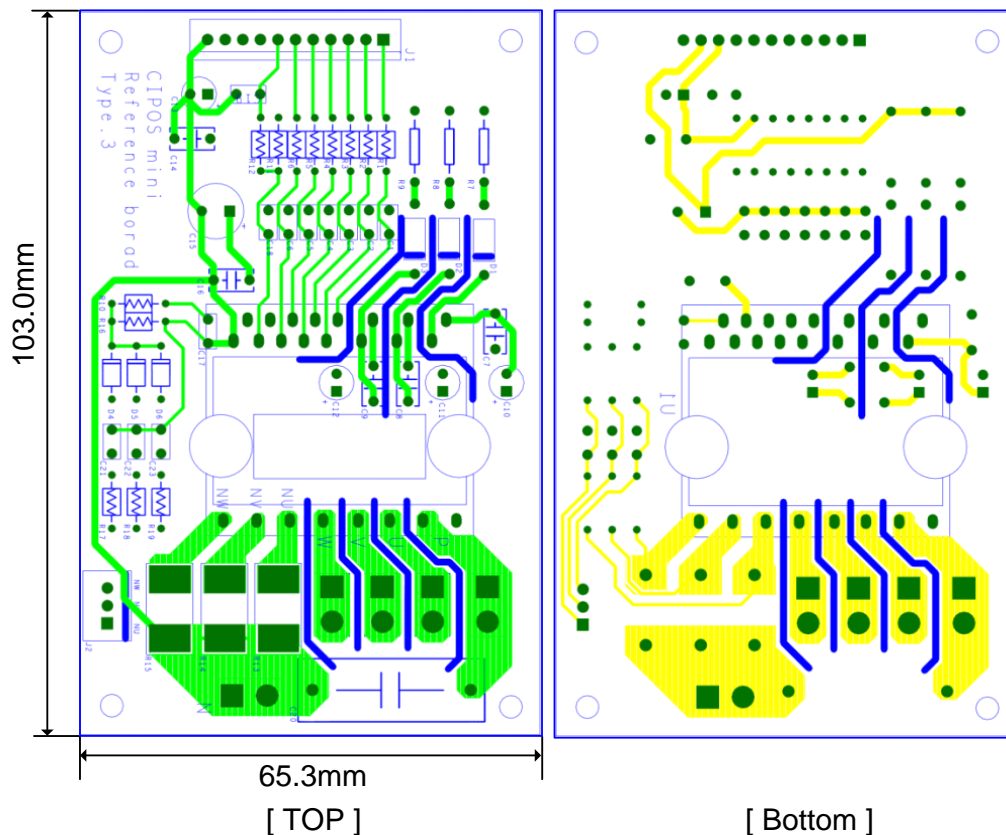

Figure 10. Layout of reference board for IGCMxxF60GA
6. In order to detect sensing voltage of the shunt resistor exactly, both sensing and ground patterns should be connected at pins of the shunt resistor and should not be overlapped with any patterns for load current as shown in Figure 10.